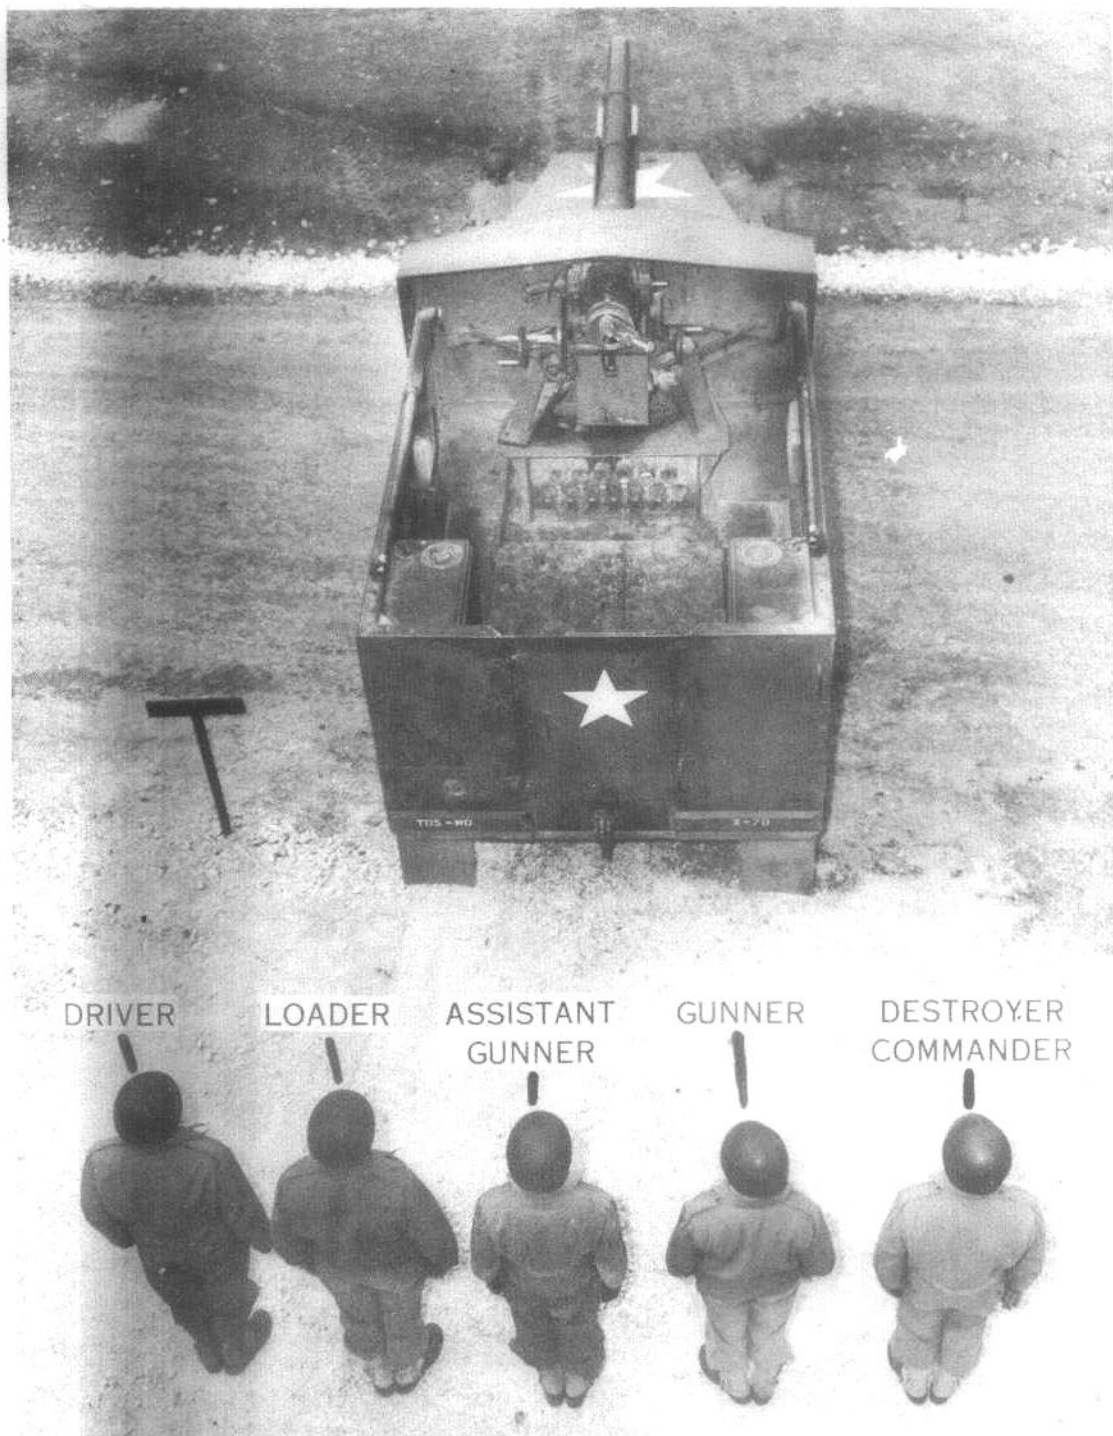

Figure 51
- 2. Crew members form at double time, in line at close interval to commander's left, in following order from right to left (fig. 51):